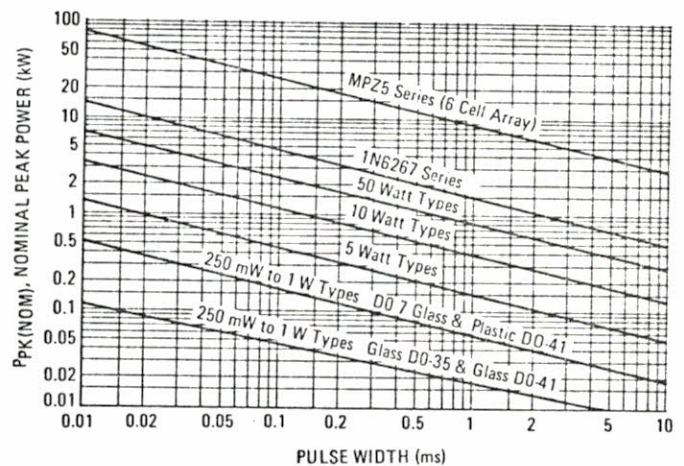
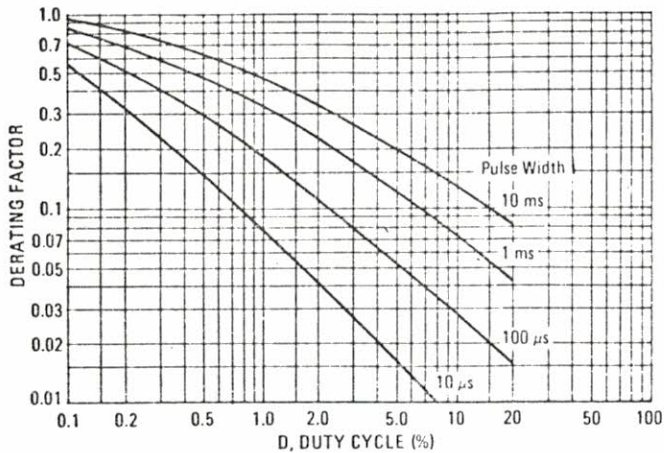

FIGURE 1 — Peak Power Ratings of Zener Diodes
FIGURE 2 — Typical Derating Factor for Duty Cycle
this data and Figure 1 is presented here to supplement this information.
Some data sheets have surge information which differs slightly from the data shown in Figure 1. A variety of reasons exist for this:
3. Larger dice are used, or special tests are imposed on the product to guarantee higher ratings than those shown on Figure 1. For example, the one watt 1N3821 series uses a die comparable to the 5 watt types.
At the limits of the various curves in Figure 1, the failure rate is less than 1 percent.
The data of Figure 1 applies for non-repetitive conditions and at a lead temperature of 25°C. If the duty cycle increases, the peak power must be reduced as indicated by the curves of Figure 2. Average power must be derated as the lead or ambient temperature rises above 25°C. The average power derating curve normally given on data sheets may be normalized and used for this purpose.
The peak current will equal the on-state transistor current (5 amperes) and will decay exponentially as determined by the coil L/R time constant (neglecting the zener impedance). A rectangular pulse of width L/R (0.01 sec) and amplitude of I_{PK} (5 A) contains the same energy and may be used to select a zener diode. The nominal zener power rating therefore must exceed $(5 \text{ A} \times 50) = 250$ watts at 10 ms and a duty cycle of $0.01/2 = 0.5\%$. From Figure 2, the duty cycle factor is 0.62 making the single pulse power rating required equal to $250/0.62 = 403$ watts. From Figure 1, one of the 1N6267 series zeners has the required capability. The 1N6287 is specified nominally at 47 volts and should prove satisfactory.